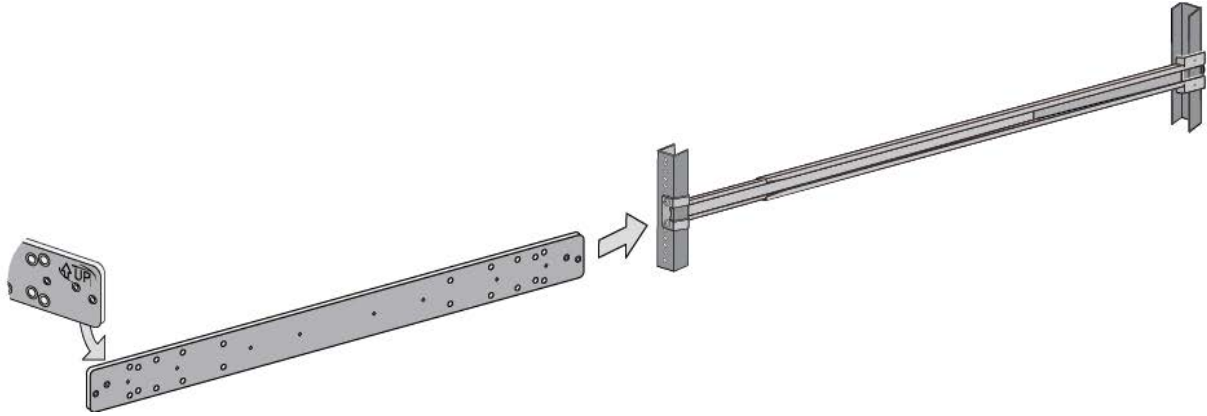

Figure 75. Inserting an Inner Rail into an Outer Rail
1. Slide one of the inner rails into an outer rail. Be sure that the UP arrow on the inner rail is pointing up. Refer to Figure 75 on page 152.